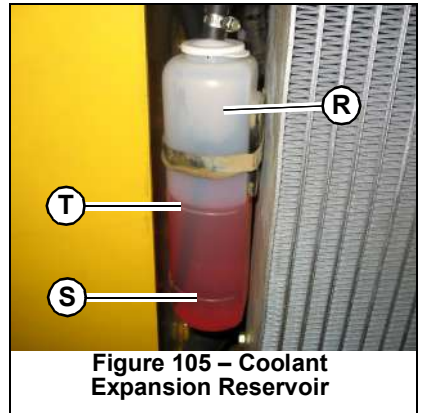

Figure 105 – Coolant Expansion Reservoir
4. Check the coolant level in the expansion reservoir (R, Figure 105). Coolant level must be between the full (T) and low (S) marks on the expansion reservoir. Add coolant to the expansion reservoir as required.